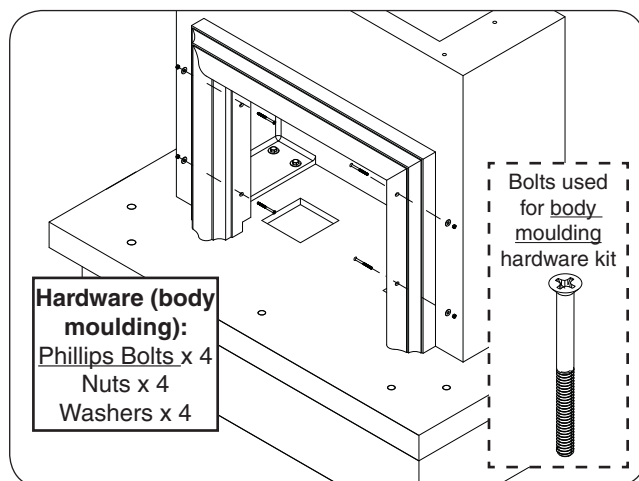

Fig. 16-3 Fasten body moulding (if applicable)
2. Carefully align the pilot holes, and insert the hardware (body moulding hardware kits) in the order shown in Fig. 16-3. Hand tighten, then use a Phillips screwdriver to fasten.